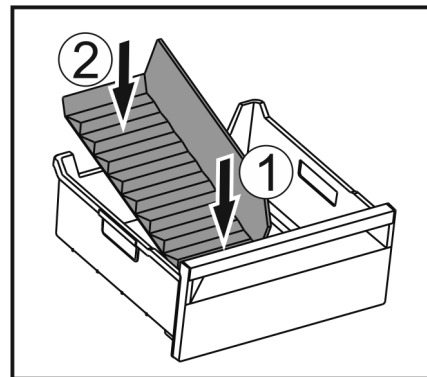

Fig. 133
- Insert the front part of the ice compartment divider. Fig. 133 (1)
- Lower the rear part of the ice compartment divider to the drawer bottom. Fig. 133 (2)